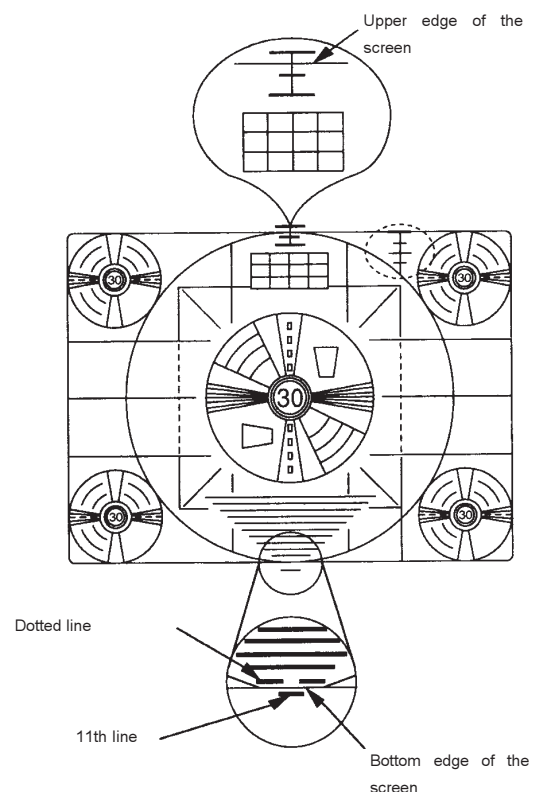

Figure 8-2
- Use the arrow keys “◀” and “▶” to set the bottom and the top edge of the circular test picture according to figure 8-2.